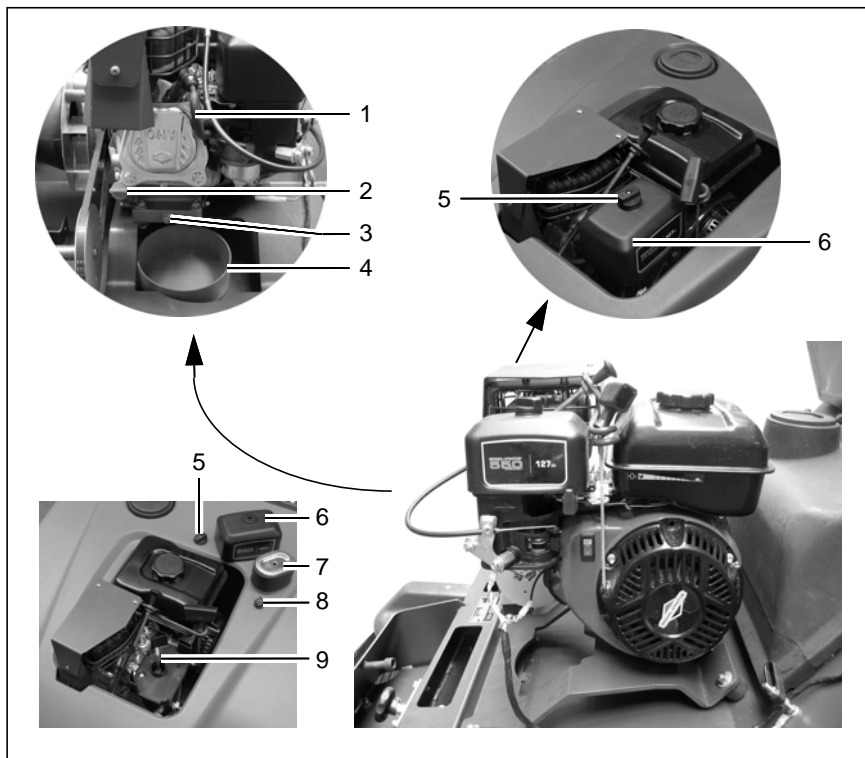

Fig. 14
4. Clean the area around the oil filling neck (Fig. 14/2).
5. Unscrew the screw plug with dipstick (Fig. 14/2) counterclockwise and check the oil level. The oil level must be in the range between FULL and ADD.
8. Screw the screw plug with dipstick (Fig. 14/2) back in, clockwise.
5. Turn the screw plug with dipstick (Fig. 14/2) counterclockwise to remove it.
9. Screw the screw plug with dipstick (Fig. 14/2) back in, clockwise.
2. Position an appropriate collecting vessel (Fig. 14/4) under the oil drain bolt (Fig. 14/3).
3. Unscrew the oil drain bolt (Fig. 14/3) and collect the escaping oil in the vessel (Fig. 14/4).
4. Clean the oil drain bolt (Fig. 14/3) with a clean cloth.
5. Remove the collecting vessel (Fig. 14/4) and dispose of the waste oil.
6. Screw the oil drain bolt (Fig. 14/3) back in.
2. Unscrew the fastening nut (Fig. 14/5) securing the air filter cover (Fig. 14/6).
3. Remove the air filter cover (Fig. 14/6).
4. Unscrew the fastening nut (Fig. 14/8) securing the air filter.
5. Pull the air filter (Fig. 14/7) from the threaded pin (Fig. 14/9).
1. Install the cleaned or new air filter (Fig. 14/7) on the threaded pin (Fig. 14/9).
2. Fix the air filter (Fig. 14/7) by screwing the fastening nut (Fig. 14/8) for the air filter on the threaded pin (Fig. 14/9).
3. Replace the air filter cover (Fig. 14/6).
4. Screw the fastening nut (Fig. 14/5) for the air filter cover (Fig. 14/6) on the threaded pin (Fig. 14/9).